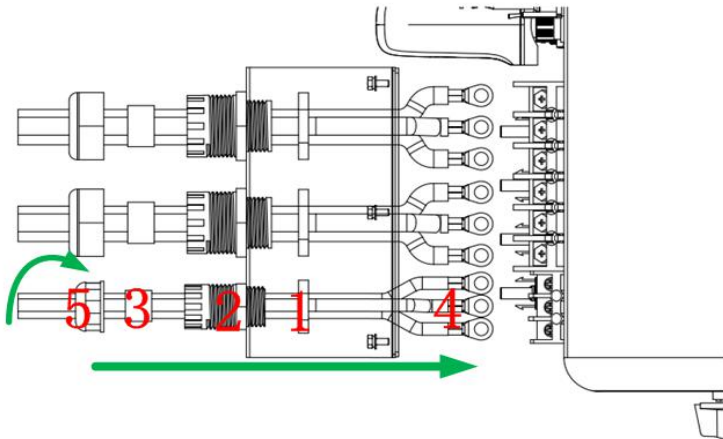

Fig. 6.3.3.1
- ② Fix the waterproof terminal on the waterproof cover, and as shown in Fig. 6.3.3.1, pass through the waterproof cover and fix it with 1, and then insert the rubber ring 3 into 2.